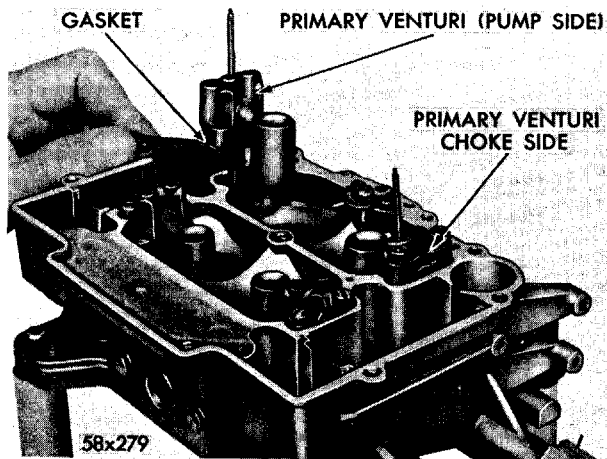

Fig. 5—Removing or Installing Primary Venturi
(4) Remove the screws that attach the primary venturi (choke and pump side) to the main body. Lift the venturi straight up and away from the main body, as shown in Figure 5. Discard the gaskets.
(1) Slide the primary throttle valve (or valves) into their respective bores, install new screws, but do not tighten. Be sure the idle speed adjusting screw is backed out. Hold the valves in place with fingers. (Fingers pressing on the high side of valves).
(2) Tap the valves lightly in this position, tighten the screws securely. Stake screws by squeezing with pliers.
(3) Install the two idle mixture adjusting screws and springs in the throttle body portion of the casting. The tapered portion must be straight and smooth. If the tapered portion is grooved or ridged, a new idle mixture adjusting screw should be installed to insure having correct idle mixture control. **Do not use a screw driver.** The adjustment should be made with the fingers. Turn the idle mixture adjusting screws lightly against their seats, then back off one full turn for an approximate adjustment.
(4) Place new secondary venturi gaskets in position, then install the secondary venturi (pump and choke side) by lowering straight down on gaskets. Install attaching screws and tighten securely. **Be sure all the metering holes and vent tubes are clean, in both the primary and secondary venturi.**
(5) Place new primary venturi gaskets in position, then install the primary venturi (pump and choke side) by lowering straight down on the gaskets. (Refer to Figure 5). Install attaching screws and tighten securely.